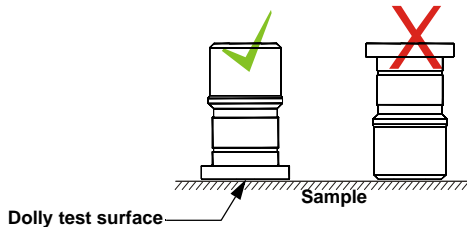

Figure 1. Adhere dolly test surface to sample
1. Identify dolly test surface (Figure 1).